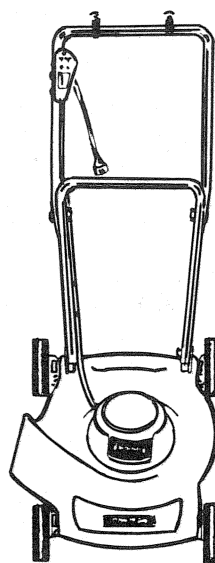

FIGURE 18
Your mower should be stored in a dry place, and to save space it can be hung on a wall (Figure 18) as follows:
2. Lower the handle to a horizontal position, away from the deck. Now the mower can be hung upright on the wall (Figure 18).